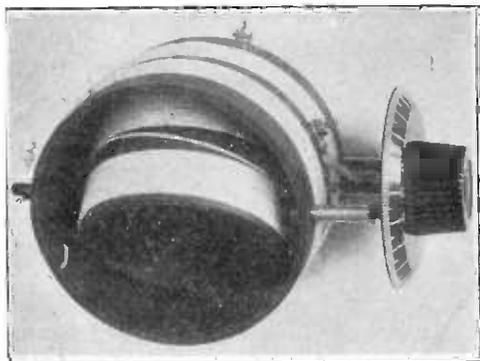

Fig. 6. A variometer represented in Fig. 2A.
(C) Variometers of the types referred to in Fig. 2, A, and C, are illustrated in Figs. 6, 7, 8 and 9.